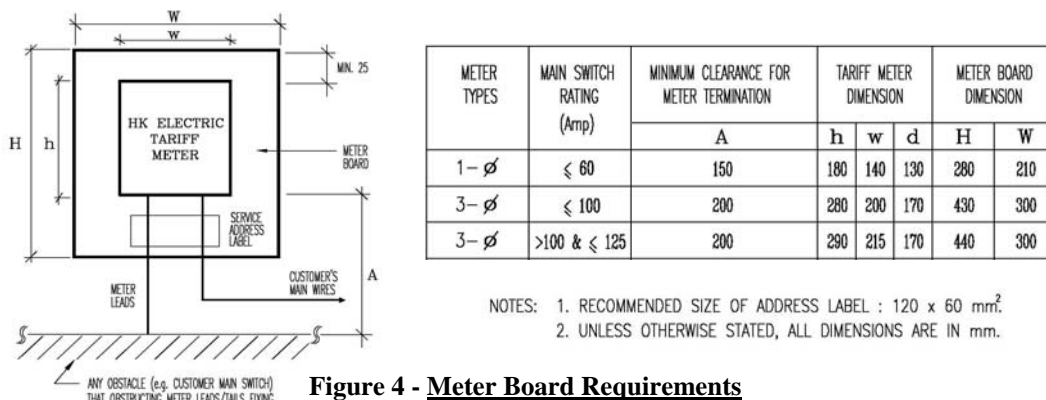

Figure 4 - Meter Board Requirements
- e. Meter boards and its clearance for more than one meter shall be of dimensions in multiples of unit per Figure 4.